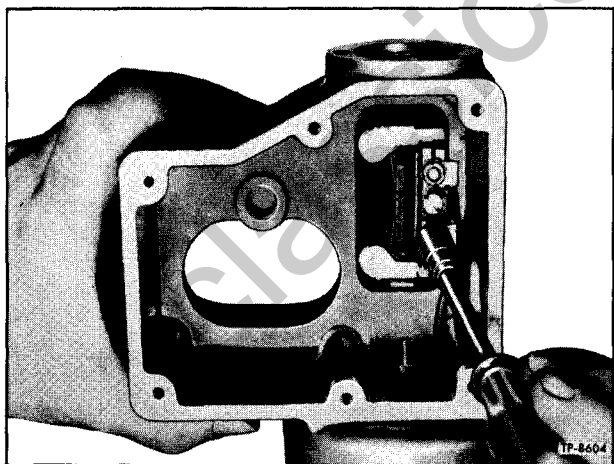

Figure 25—Removing Motor Wires
8. Remove the two lock nuts (19) from switch terminals (17). Pull off motor wires (Fig. 25).
4. Remove the two lock nuts (19) from switch terminals (17). Pull off motor wires (fig. 25).